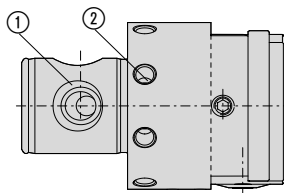

Fig. 1
- On the machine side, the precision boring tool is fitted with a Wohlhaupter **MUSE**® connection ① (Fig. 1).
- Manual balancing is possible using the threaded holes ② mounted on the tool body.